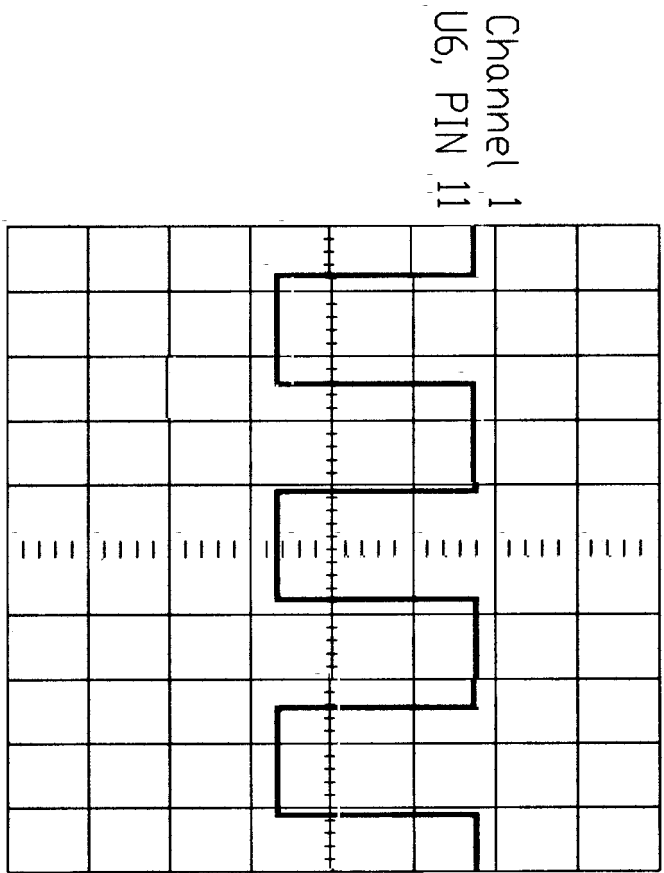

FIGURE 1 OPTO PICKUP WAVEFORM
- III. Check the waveform (see the FIGURE 1 "OPTO PICKUP WAVEFORM" attached).**